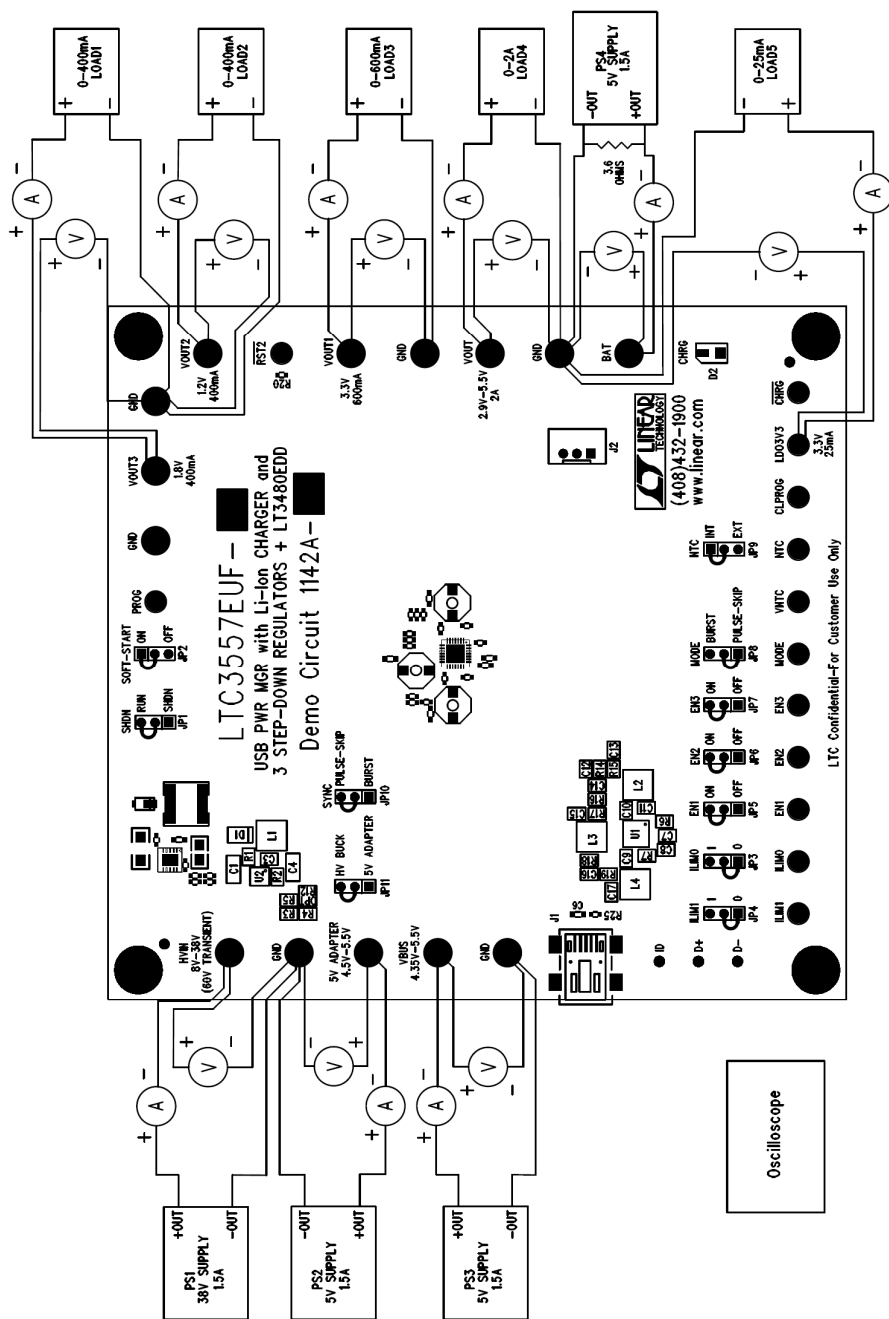

Figure 2. Proper Equipment Setup for DC1142A-A/B
Demo Circuit 1142 is best evaluated using a lithium ion battery. The test set-up in Figure 2 shows a battery simulator, consisting of PS4 and a 3.6 Ohm power resistor. Since the demo circuit is designed to possibly be used with a battery simulator, it includes a capacitor between the BAT and GND terminals with some series resistance. Please see the Applications Section below for a detailed discussion of selecting the proper bypass capacitor and series resistance for the BAT terminal.
Refer to Figure 2 for the proper measurement and equipment setup and follow the procedure below.
1. Set all Power Supplies to zero volts and all loads to zero amps and then connect the test equipment as shown in Figure 2. If using the USB input option, have cable ready to plug in for when all loads and jumpers are set. **Do not use the USB input and an external supply at the same time.**